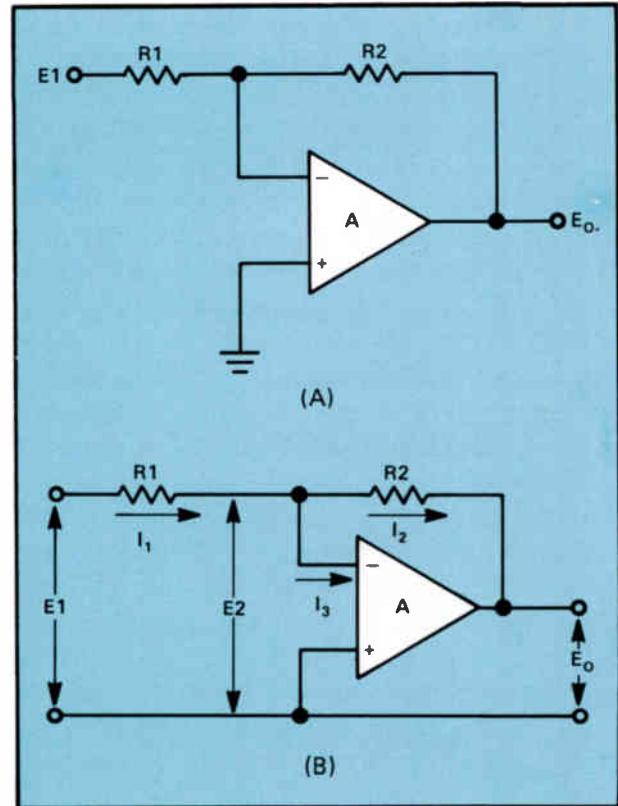

Figure 7. (A) A standard op amp circuit. (B) Currents and voltages in the op amp.
Figure 7(A) is a diagram of a typical op amp circuit. Here, the noninverting input to the amplifier is grounded. This eliminates the differential characteristics of the amplifier so we can use it as a single-ended circuit. Negative
feedback is provided by resistor R2 connected between the output and the inverting input. An input resistor, R1, is also connected to the inverting input. The free end of R1 is the input to the circuit. With this circuit, the gain of the op amp is determined entirely by the ratio of R2 to R1 rather than A. If this is difficult to see at first, see Fig.7(B) for an explanation.
Figure 7(B) shows the current and voltages in the op amp circuit. Current flowing through R1 is designated I1, while current flowing through the feedback resistor R2 is designated I2. The current flowing in the input of the op amp is designated I3. I3 is generally the base current of a transistor. The input voltage to this circuit is labeled E1, and the input to the amplifier is shown as E2. The output voltage is Eo.
In Fig.7(B), the current flowing in the amplifier is I3. If we assume that the op amp is a perfect amplifier and has an infinite impedance, we can conclude that it will not draw current from the input source and I3 = 0. In fact, I3 will be so low that this is a valid assumption. The entire input current I1 must flow through R2. This means that I1 must be equal to I2. Now if:
- 8 What determines the gain of the circuit shown in Fig.7?